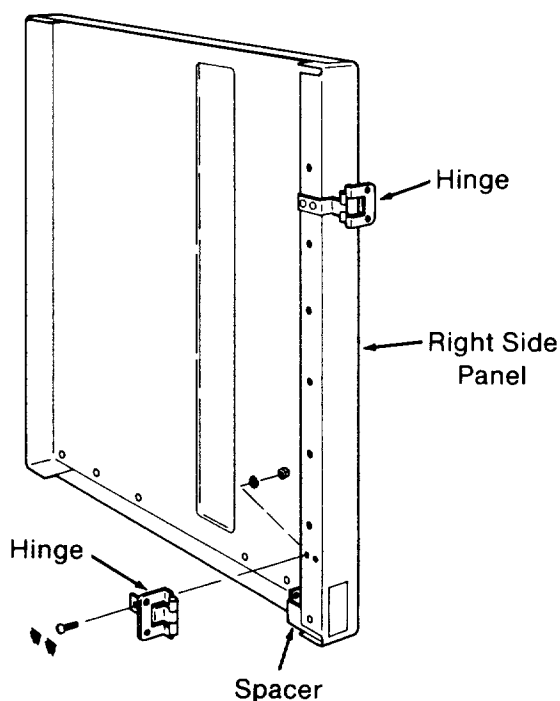

Fig. 19
15. Attach two *hinges* to the *right side panel* above the *spacer*, using four truss head bolts, lockwashers, and hex nuts. Tighten with a 7/16 inch wrench. (Figure 19)